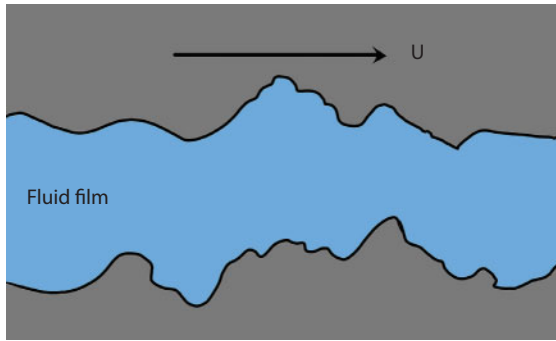

Figure 17.2 Full fluid lubrication.
4. **Full fluid lubrication**, also called hydrodynamic lubrication, is where two surfaces are completely separated by a fluid film (see Figure 17.2). Full fluid lubrication is essential for the long-term reliability of high-speed, fluid film bearings. A full fluid film is formed when the bearing geometry, shaft speed, and oil viscosity combine to generate sufficient pressure to support the full bearing load. This is self-generating pressure that results in the complete separation of the shaft from the bearing (see Figure 17.3).